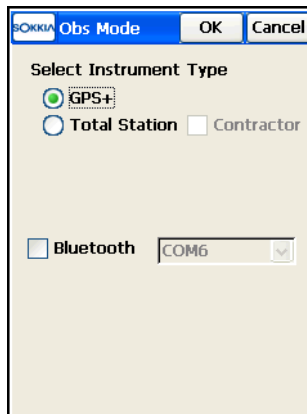

Figure 3-1. Observation Mode – GPS
3. If the receiver or the controller are not Bluetooth enabled, or the Bluetooth option is unchecked, connect the receiver to the controller with the cable and set the Instrument type to GPS+ in Sokkia SSF (change this setting later in the *Observation Mode* screen) (Figure 3-1 on page 3-2).